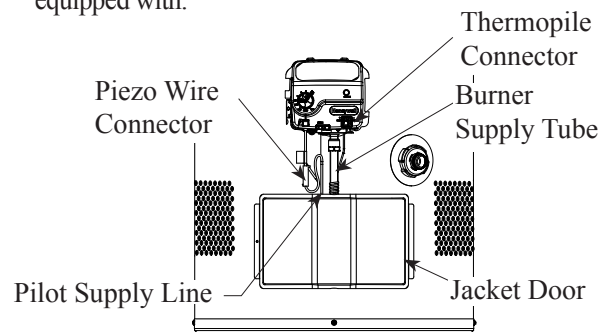

Figure 1
2. **REMOVE JACKET DOOR:** See Figure 1 or 2.
3. **DISCONNECTION OF THERMOPILE, PILOT SUPPLY LINE, BURNER SUPPLY TUBE AND PIEZO WIRING FROM THE COMBINATION GAS CONTROL:** Locate the thermopile connector on the combination gas control. Carefully pull off the connector. Using a 7/16" open-end wrench, disconnect the pilot supply line from the combination gas control. Using a 3/4" open-end wrench, disconnect the burner supply tube from the combination gas control. Locate the piezo wire connector and disconnect it by pulling it apart. See Figures 1 or 2 for the type of control your water heater is equipped with.
**9. CONNECTION OF BURNER SUPPLY TUBE AND PILOT SUPPLY LINE:** Install the inverted flared end of the burner supply tube into the combination gas control. Hand thread the hex nut fitting on the burner supply tube into the control. Ensure that the fitting is properly aligned with the control, otherwise cross threading of the connection will occur. Tighten the fitting using a 3/4" open-end wrench. See Figures 1 or 2 for the type of control your water heater is equipped with.
Install the end of the pilot supply line into the combination gas control. Hand thread the hex nut fitting on the pilot supply line into the control. Ensure that the fitting is properly aligned with the control, otherwise cross threading of the connection will occur. Tighten the fitting using a 7/16" open-end wrench. See Figures 1 or 2 for the type of control your water heater is equipped with.
Locate the thermopile connector on the pilot assembly. Using needle nose pliers push the connector onto the Honeywell Combination Gas Control and ensure that the connector is fully engaged. Locate the piezo wire connector and connect it to the piezo lead coming from the gas control. See Figure 1.